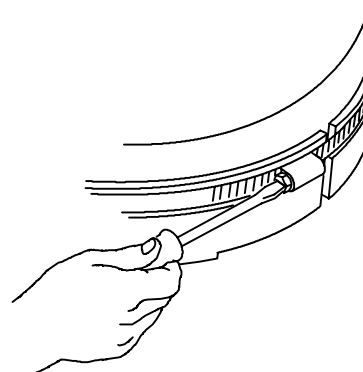

FIG. 70
3. Loosen skirt band clamp and remove clamp from band. Remove old skirt and band from scrub head (Figure 70).